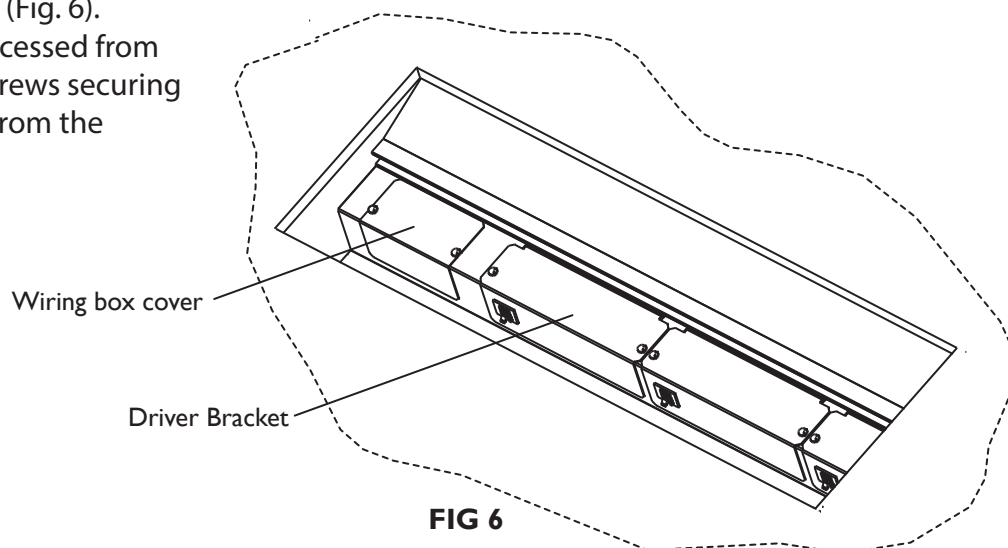

FIG 6
2.5 - Driver maintenance / replacement can be performed from below the ceiling by removing the 2 screws securing the relevant driver bracket, and removing it from the recessed housing (Fig. 6).
2.6 - Line wiring connections can be accessed from below the ceiling by removing the 2 screws securing the wiring box cover, and removing it from the recessed housing (Fig. 6).